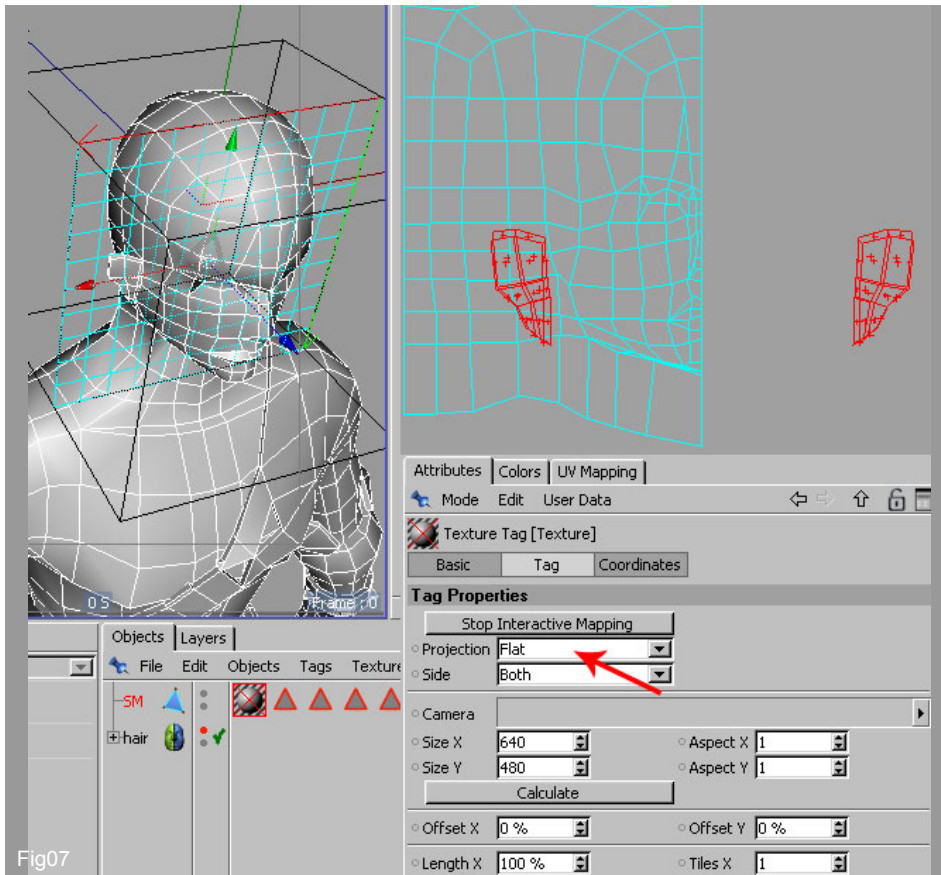

Fig07
7. Now we can map the ears. Select so the ears (from 3d view) and apply the Interactive Mapping. Choose the Flat projection and use the Texture Axis tool to rotate the gizmo and position it as seen in Fig07 (left). Stop the interactive map.